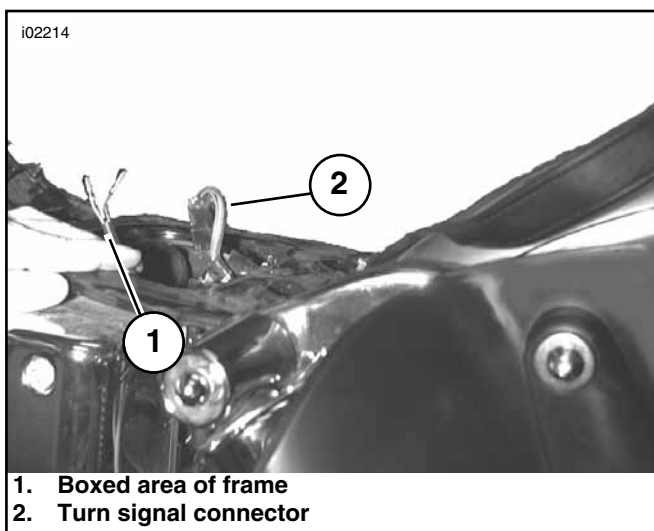

Figure 20. Route Wiring to Connector [7]
31. See Figure 20. Continue routing wiring harness under front of strut in front of fender and through middle boxed area of frame (1) to connector (2).